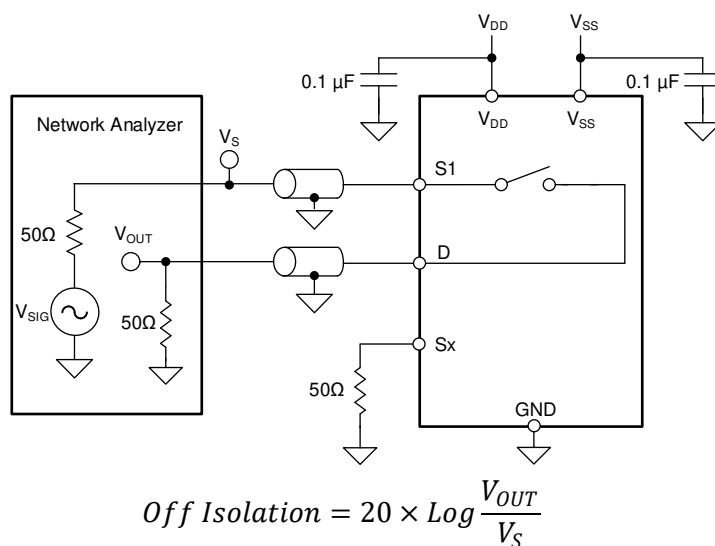

图 8-12. Off Isolation Measurement Setup
Off isolation is defined as the ratio of the signal at the drain pin (D) of the device when a signal is applied to the source pin (Sx) of an off-channel. 图 8-12 shows the setup used to measure, and the equation used to calculate off isolation.